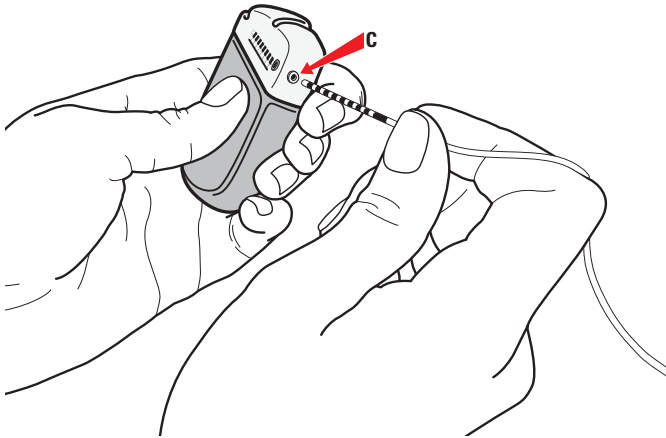

Figure 36. Connection to IPG Port C
1. Connect the Lead Extension to Port C (Figure 36).